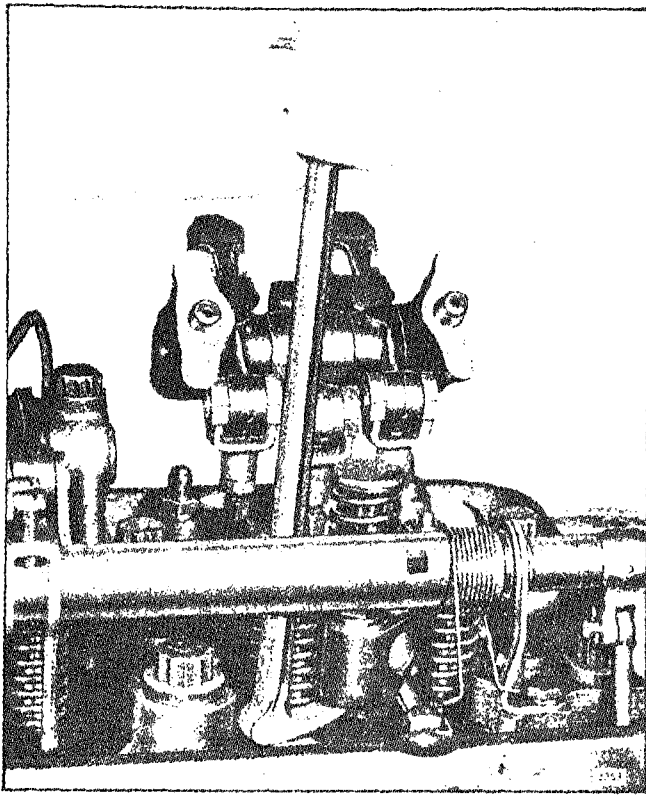

Fig. 3 - Removing Injector from Cylinder Head
8. Free the injector from its seat as shown in Fig. 3 and lift it from the cylinder head.